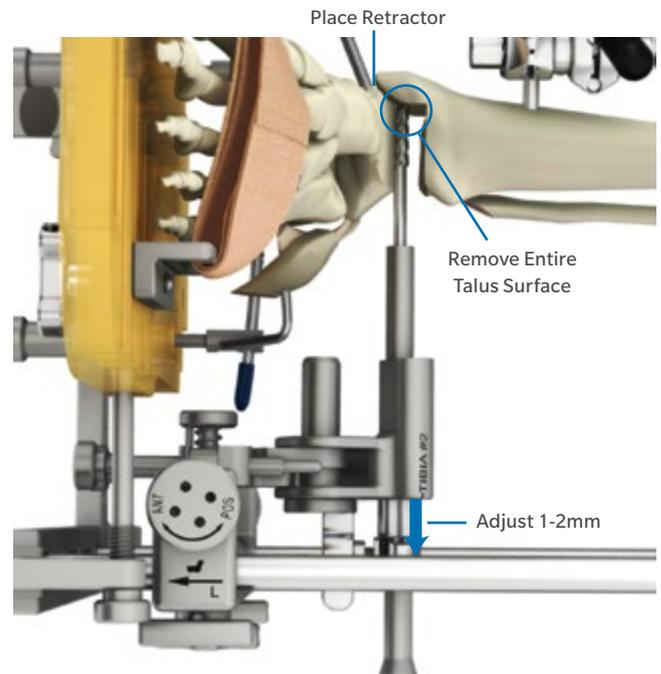

Fig. 63
- Progressively adjust and lock the Bur Guard Stop in 1-2 mm increments laterally to allow for full talar surface preparation medially (Fig. 63).